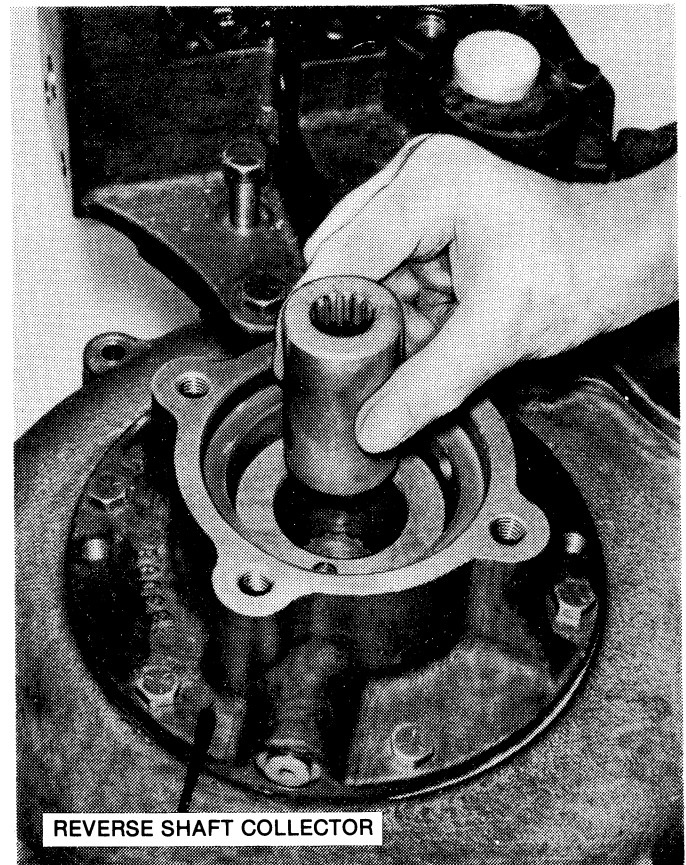

Figure 6-10. Removing or Installing Pump Drive Coupling Assembly.
19. Remove the pump drive coupling assembly from the pump drive shaft. See Figure 6-10.